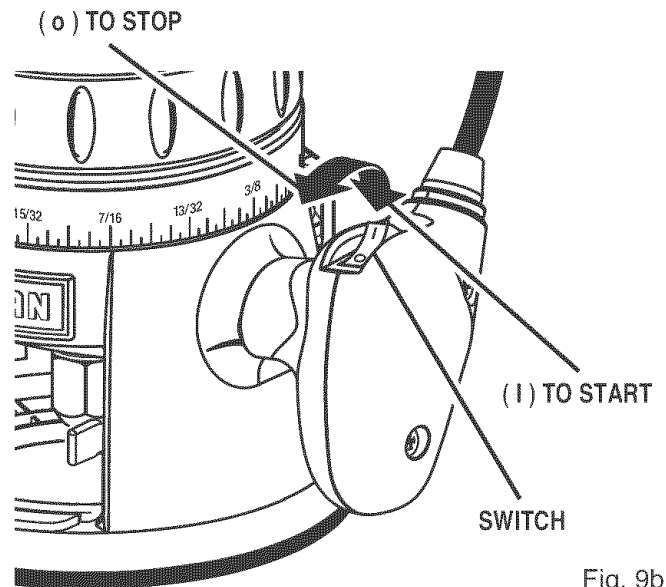

Fig. 9b
- To start router: Toggle the switch to the **I** position. See Figure 9b.
- To stop router: Toggle the switch to the **O** position. See Figure 9b.